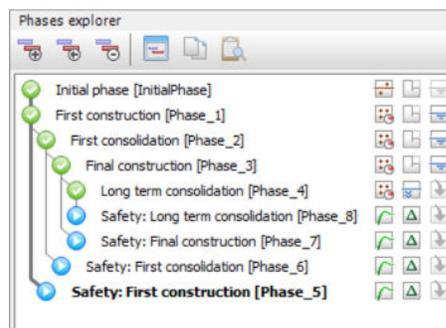

Figure 100: Phases explorer displaying the Safety calculation phases
8. Follow the same steps to create new calculation phases that analyse the stability at the end of each consolidation phase. In addition to selecting **Safety** as calculation type, select the corresponding consolidation phase as the **Start from phase** parameter. The **Phases** explorer displaying the **Safety** calculation phases is shown in Figure 100 (on page 125).